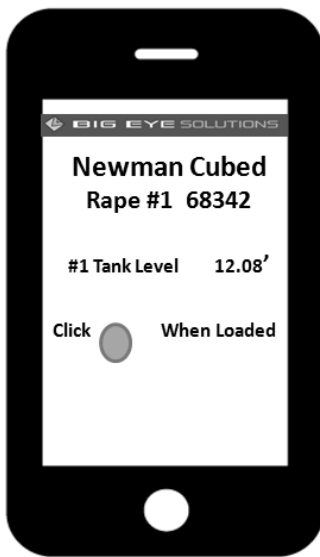

Figure 3
- A message is sent to the driver/truck showing the top tank gauge and well ID, which eliminates the need for the driver to climb a tank stairway. The driver sees this message and can quickly off load the fluids. (Figure 3)